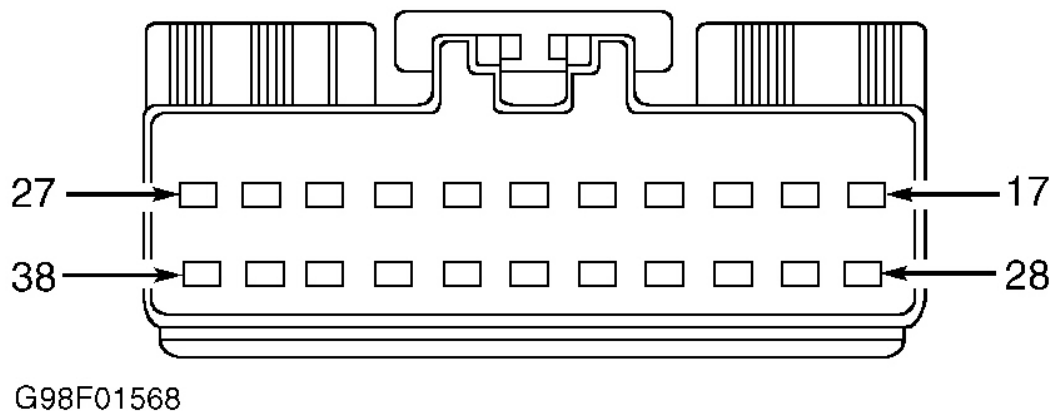

Fig. 2: Identifying DDM Connector C520 Terminals
3. Install fuse No. 30. Remove door trim panel. Disconnect DDM 22-pin connector C520 located in upper front corner of driver door. Using an ohmmeter, check resistance between ground and DDM 22-pin connector C520 terminal No. 29 (Light Green/Purple wire). See **Fig. 2** . If resistance is less than 5 ohms, go to next step. If resistance is 5 ohms or more, repair open in Light Green/Purple wire between fuse junction panel and DDM. Retest system operation.
4. Using an ohmmeter, check resistance between ground and DDM 22-pin connector C520 terminal No. 23 (Pink/Orange wire). See **Fig. 2** . If resistance 5 ohms or more, repair open in Pink/Orange wire and retest system operation. If resistance is less than 5 ohms, see appropriate MODULE COMMUNICATIONS NETWORK article to diagnosis network concern.
6. Remove fuse No. 30 (7.5-amp) from fuse junction panel. Disconnect DDM 22-pin connector C520 and Driver Seat Module (DSM) 26-pin connector C313 located under driver seat. Using an ohmmeter, check resistance between ground and DDM 22-pin connector C520 terminal No. 29 (Light Green/Purple wire). See **Fig. 2** . If resistance is 10 k/ohms or less, go to next step. If resistance is more than 10 k/ohms, go to step 8 .
4. Turn ignition off. Disconnect DDM 22-pin connector C520 located in upper front corner of driver door. Using a voltmeter, check voltage between ground and DDM 22-pin connector C520 terminal No. 28 (Red wire). See **Fig. 2** . If voltage is more than 10 volts, go to next step. If voltage is 10 volts or less, replace DDM and retest system operation.
11. Turn ignition off. Disconnect DDM 22-pin connector C520 located in upper front corner of driver door. Using a voltmeter, check voltage between ground and DDM 22-pin connector C520 terminal No. 26 (Black/White wire). See **Fig. 2** . If voltage is 10 volts or less, go to next step. If voltage is more than 10 volts, go to step 15 .
(Black/White wire). See **Fig. 2** . If resistance is less than 5 ohms , repair short to ground in Black/White wire and retest system operation. If resistance is 5 ohms or more, replace DDM and retest system operation.
16. Turn ignition off. Using an ohmmeter, check resistance in Red wire between DDM 22-pin connector C520 terminal No. 28 and decklid release solenoid connector. See **Fig. 2** . If resistance is less than 5 ohms, go to next step. If resistance is 5 ohms or more, repair open in Red wire and retest system operation.
17. Using an ohmmeter, check resistance between ground and DDM 22-pin connector C520 terminal No. 28 (Red wire). See **Fig. 2** . If resistance is 5 ohms or more, go to next step. If resistance is less than 5 ohms, repair short to ground in Red wire and retest system operation.
18. Turn ignition switch to RUN position. Using a voltmeter, check voltage between ground and DDM 22-pin connector C520 terminal No. 28 (Red wire). See **Fig. 2** . If voltage is more than 10 volts, repair Red wire and retest system operation. If voltage is 10 volts or less, replace DDM and retest system operation.
2. Turn ignition off. Disconnect DDM 22-pin connector C520 located in upper front corner of driver door. Disconnect driver and front passenger door lock switch connectors. Turn ignition switch to RUN position. Using a voltmeter, check voltage between ground and DDM 22-pin connector C520 terminal No. 22 (Pink/Yellow wire). See **Fig. 2** . If voltage is 10 volts or less, go to next step. If voltage is more than 10 volts, repair short to power in Pink/Yellow wire and retest system operation.
4. Turn ignition off. Disconnect DDM 22-pin connector C520 located in upper front corner of driver door. Disconnect driver and front passenger door lock switch connectors. Turn ignition switch to RUN position. Using a voltmeter, check voltage between ground and DDM 22-pin connector C520 terminal No. 34 (Pink/Light Green wire). See **Fig. 2** . If voltage is 10 volts or less, go to next step. If voltage is more than 10 volts, repair short to power in Pink/Light Green wire and retest system operation.
8. Using an ohmmeter, check resistance between ground and DDM 22-pin connector C520 terminal No. 22 (Pink/Yellow wire). See **Fig. 2** . If resistance is more than 10 k/ohms, go to next step. If resistance is 10 k/ohms or less, repair short to ground in Pink/Yellow wire and retest system operation.
10. Using an ohmmeter, check resistance between ground and DDM 22-pin connector C520 terminal No. 34 (Pink/Light Green wire). See **Fig. 2** . If resistance is 5 ohms or more, go to next step. If resistance is less than 5 ohms, repair short to ground in Pink/Light Green wire and retest system operation.
13. Turn ignition off. Disconnect DDM 22-pin connector C520 located in upper front corner of driver door. Using a voltmeter, check voltage between ground and DDM 22-pin connector C520 terminal No. 26 (Black/White wire). See **Fig. 2** . If voltage is 10 volts or less, go to next step. If voltage is more than 10 volts, go to step 17 .
16. Using an ohmmeter, check resistance between ground and DDM 22-pin connector C520 terminal No. 26 (Black/White wire). See **Fig. 2** . If resistance is less than 5 ohms, repair short to ground in Black/White wire and retest system operation. If resistance is 5 ohms or more, replace DDM and retest system operation.
17. Using an ohmmeter, check resistance between ground and DDM 22-pin connector C520 terminal No. 27 (Black wire). See **Fig. 2** . If resistance is less than 5 ohms, go to next step. If resistance is 5 ohms or more, repair open in Black wire and retest system operation.
18. Remove door trim panel. Disconnect driver door lock motor connector. Using an ohmmeter, check resistance in Red/Orange wire between DDM 22-pin connector C520 terminal No. 37 and driver door lock motor connector. See **Fig. 2** . Check resistance in Pink/Black wire between DDM 22-pin connector C520 terminal No. 38 and driver door lock motor connector. If resistances are less than 5 ohms, go to next step. If either resistance is 5 ohms or more, repair open in Red/Orange wire and/or Pink/Black wire
19. Remove door trim panel. Disconnect passenger door lock motor connector. Using an ohmmeter, check resistance in Pink/Black wire between DDM 22-pin connector C520 terminal No. 38 and passenger door lock motor connector. See Fig. 2 . Check resistance in Pink/Orange wire between DDM 22-pin connector C520 terminal No. 17 and passenger door lock motor connector. If resistances are less than 5 ohms, go to next step. If either resistance is 5 ohms or more, repair open in Pink/Black wire and/or Pink/Orange wire (s) and retest system operation.
22. Using an ohmmeter, check resistance between ground and DDM 22-pin connector C520 terminal No. 17 (Pink/Orange wire). See Fig. 2 . Check resistance between ground and DDM 22-pin connector C520 terminal No. 37 (Red/Orange wire). Check resistance between ground and DDM 22-pin connector C520 terminal No. 38 (Pink/Black wire). If all resistances are more than 10 k/ohms, go to next step. If any resistance is 10 k/ohms or less, repair short to ground in appropriate wire(s) and retest system operation.